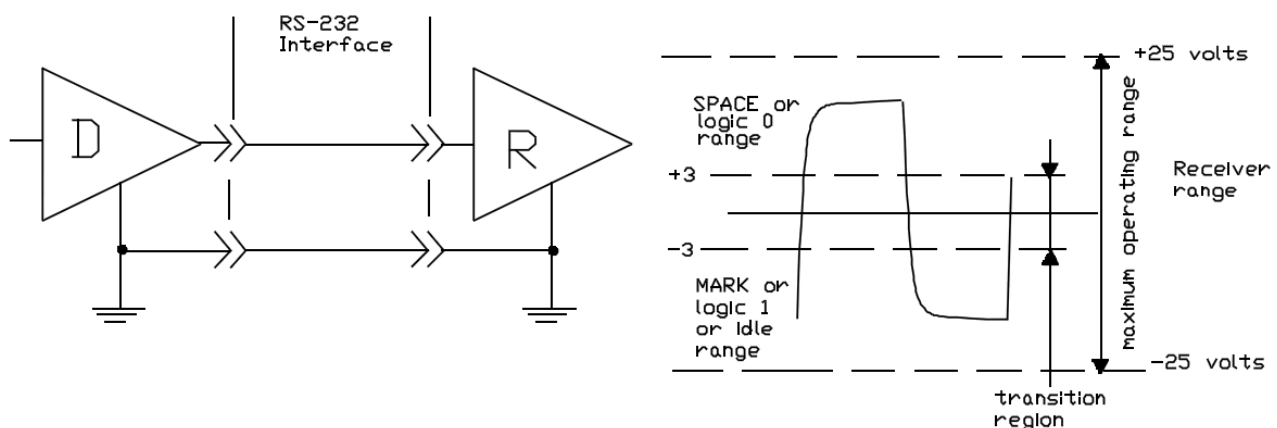

Figure.1 RS-232 Interface Circuit
Each signal that transmits in an RS-232 unbalanced data transmission system appears on the interface connector as a voltage with reference to a signal ground. For example, the transmitted data (TD) from a DTE device appears on pin 2 with respect to pin 7 (signal ground) on a DB-25 connector. This voltage will be negative if the line is idle and alternate between that negative level and a positive level when data is sent with a magnitude of ± 5 to ± 15 volts. The RS-232 receiver typically operates within the voltage range of +3 to +12 and -3 to -12 volts as shown in Figure 1. **Unbalanced Line Drivers**